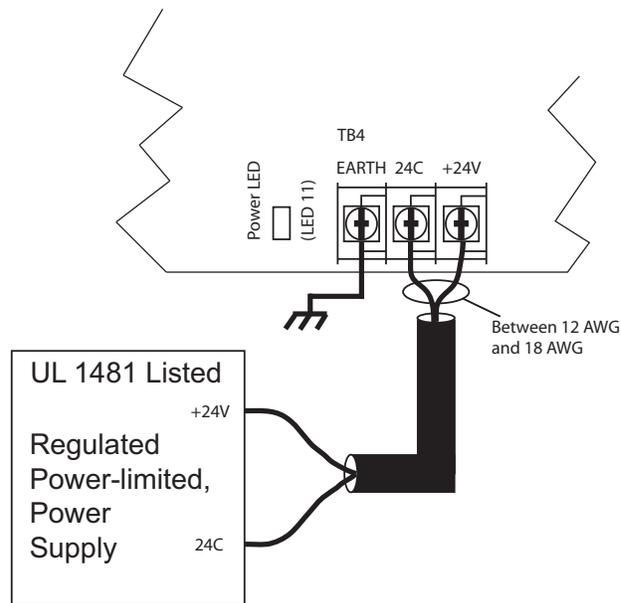

Figure 7-21 Power Connection Diagram
The FAES's power is supplied through the power terminal block (TB4) on the EFDM (Figure 7-21). Power cables should be passed through the knock-out hole 2.
1. The +24 VDC and the 24C terminals of the power terminal block (Figure 7-21) must be connected to the power supply.